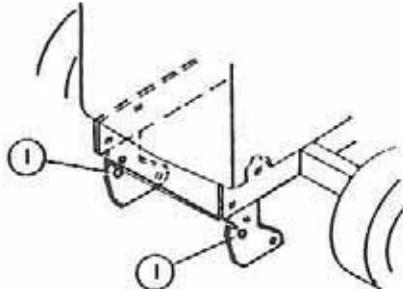

FIGURE 5
NOTE: On lawn tractor: if you do not have a 13/16" dia. hole on front frame brackets (fig. 5, item 1), replace the brackets with the ones supplied in kit (page 12, ref. 14 and 19).
- b) Lift the front portion of subframe between the tractor mounting plates (fig. 5, item 1) and hold in place with 3/4" x 13.50" pin. Secure the pin with 3mm hair pins.